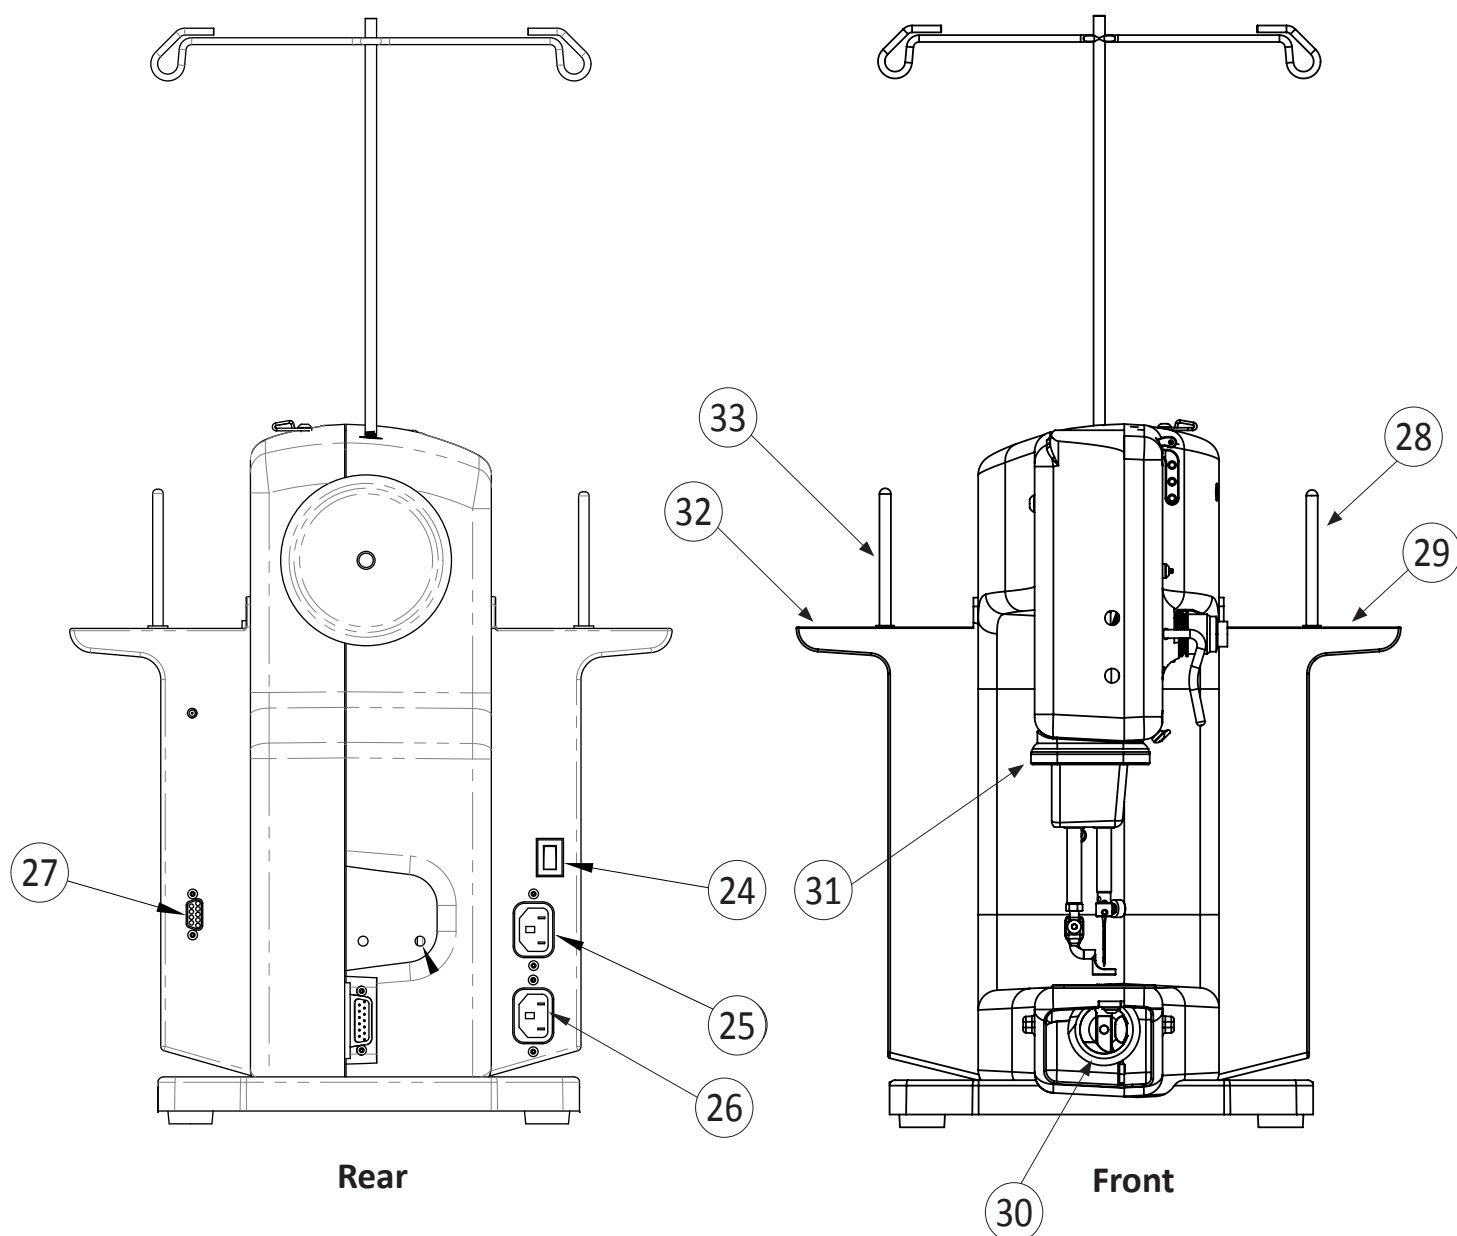

Figure 3
Check that the On/Off switch (page 7, Figure 3, #23) is turned off (the 0 setting). Plug the power cord into the top power outlet on the back of the machine (Figure 4). Do not plug the power cord into a power source at this time.
1. Plug in the foot pedal cord end into the foot pedal connector (see page 7, Figure 3, #26).